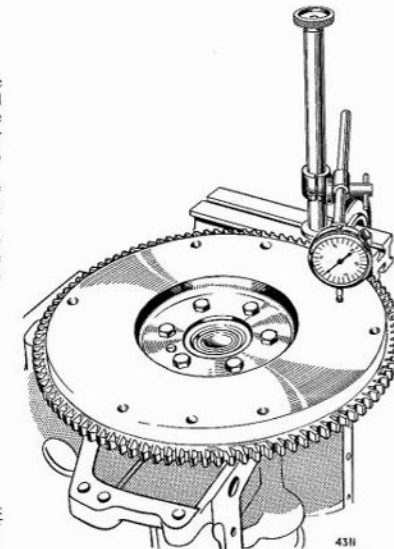

Fig. B.122. Checking the flywheel for "run-out", using a dial gauge
4. Check the "run-out" of the flywheel at the outer edge of the driven plate friction face on the flywheel (see Fig. B.122). A total dial gauge reading of .003 in. (.076 mm.) must not be exceeded. If this figure is